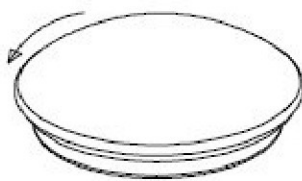

Fig.1
1. Take down the glass shade by turning it anti-clockwise(see fig.1)